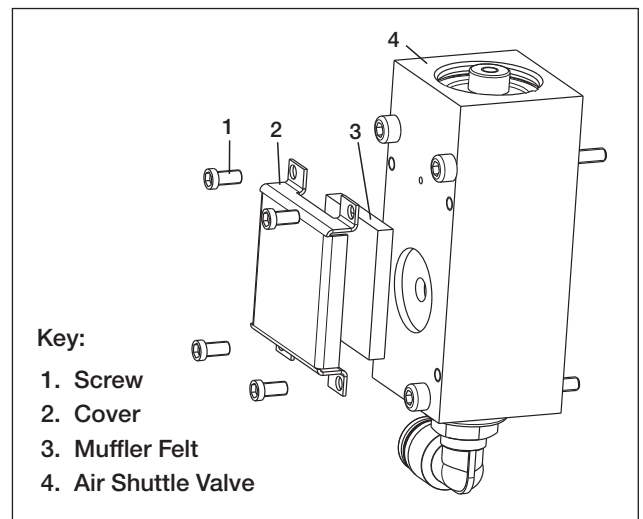

Figure 21 - Air Exhaust Muffler
2. Loosen and remove the four screws securing the cover to the air shuttle valve. See Figure 21.